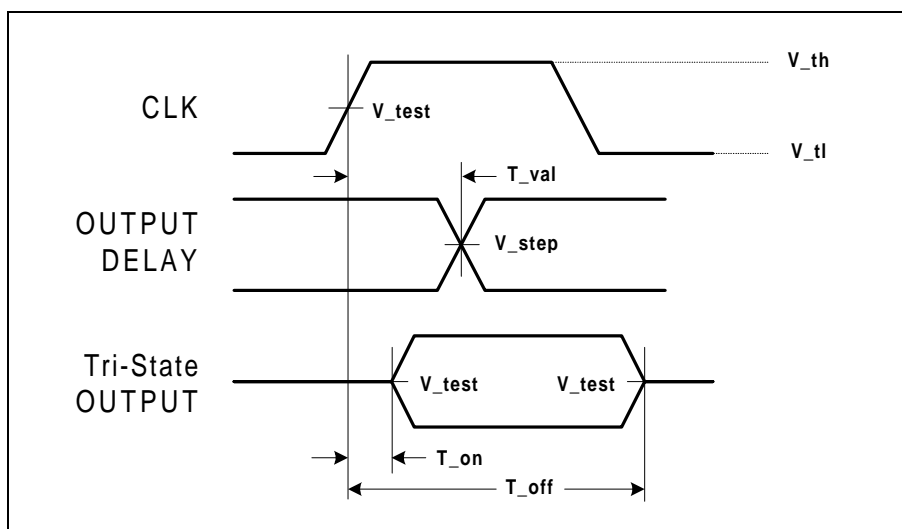
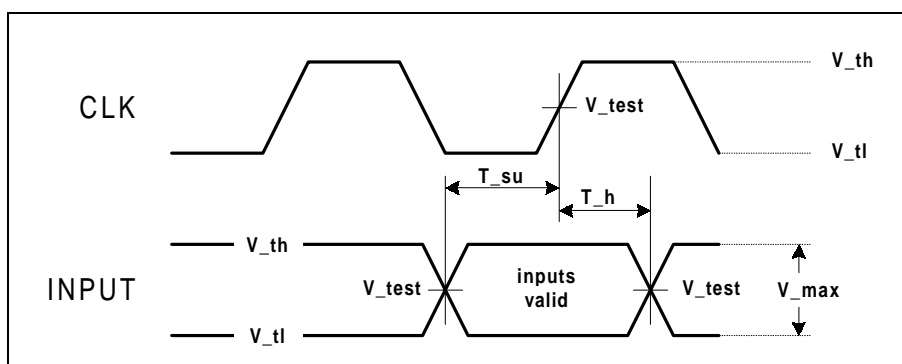

Figure 27. Output Timing Measurement Conditions
Figure 28. Input Timing Measurement Conditions
Figure 27, Figure 28, and Table 24 define the conditions under which timing measurements are done. The component test guarantees that all timings are met with minimum clock slew rate (slowest edge) and voltage swing. The design must guarantee that minimum timings are also met with maximum clock slew rate (fastest edge) and voltage swing. In addition, the design must guarantee proper input operation for input voltage swings and slew rates that exceed the specified test conditions.
1. Timing measurement conditions are illustrated in Figure 27.
4. Timing measurement conditions are illustrated in Figure 28.